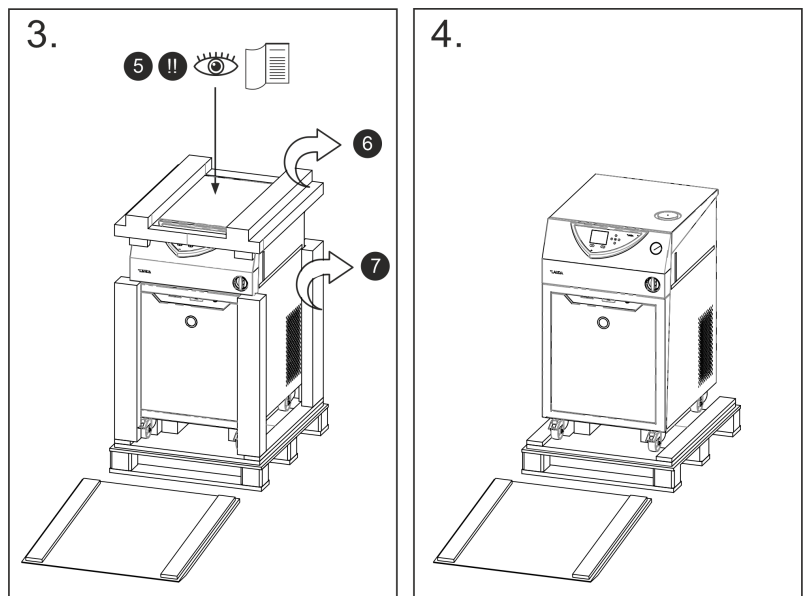

Fig. 3: Graphic of unpacking instructions for VC 5000
4. Fig. 3: The operating manual is lying on the device ⑤. You will need this.